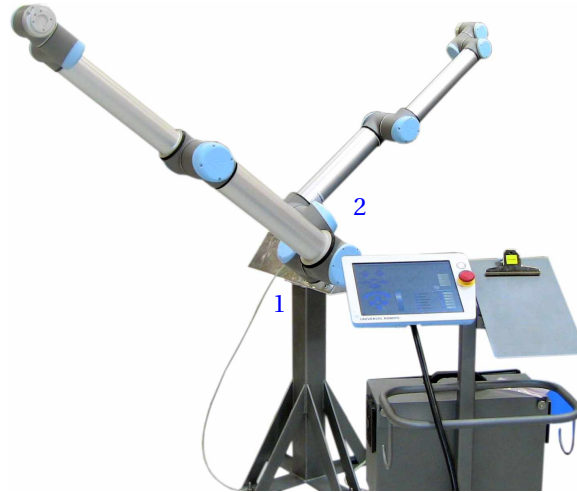

Figure 2.3: Mount the robots on the Calibration Horse, connecting the robot bases
- (1) Mount the Calibration Horse to a stand of a height of at least 0.5 m and mount the robots to the Calibration Horse, as in Figure 2.3.
- (2) Mount two robots of the *same type and version* on the Calibration Horse, see Figure 2.3.